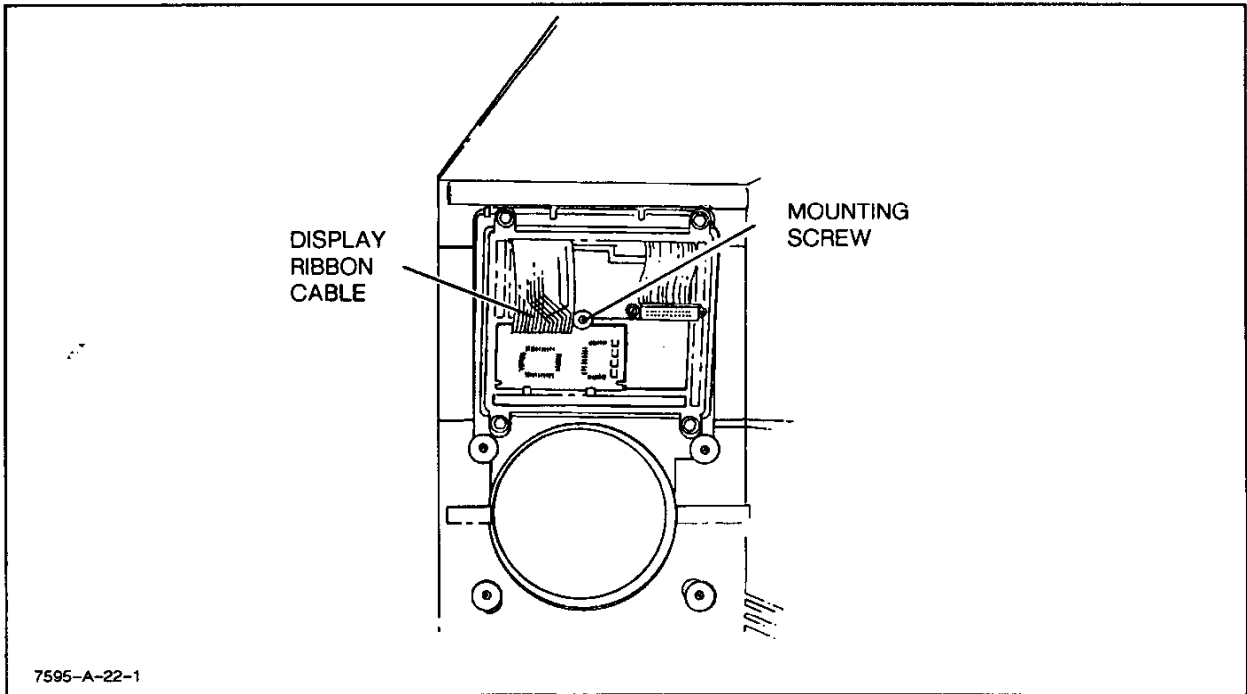

Figure 6-6. Front Panel Display Removal
- a. Turn the plotter line switch to OFF (O) and disconnect the ac power cord.
- c. Disconnect the LCD ribbon cable. See Figure 6-6.